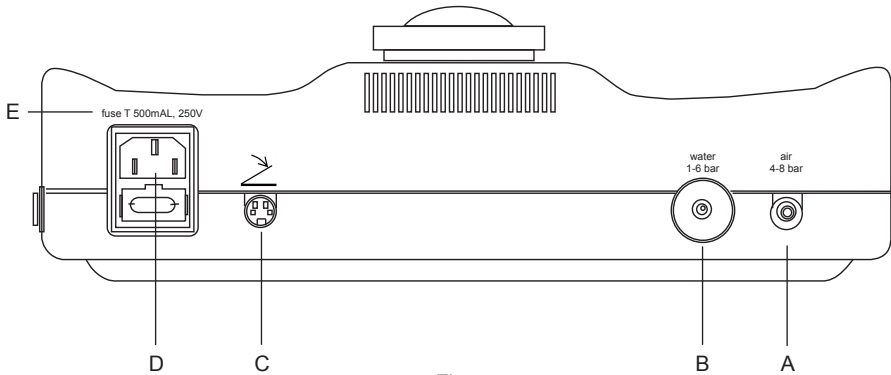

Fig. 4
- 4 Connect the quick-fit connector of the air hose to the male coupling on the rear of the device (Fig.4 - Ref.A).
- 5 Connect the quick-fit connector of the water hose to the male coupling on the rear of the device (Fig.4 - Ref.B).
- 6 Insert the connector of the foot pedal into the socket on the rear of the device (Fig.4 - Ref.C).
- 7 Plug the power-supply cable into the socket on the rear of the device (Fig.4 - Ref.D) and then into the mains power outlet.
- 8 Press the foot pedal and adjust the water flow using the knob on the left (Fig.4 - Ref.F) until the required quantity is obtained.